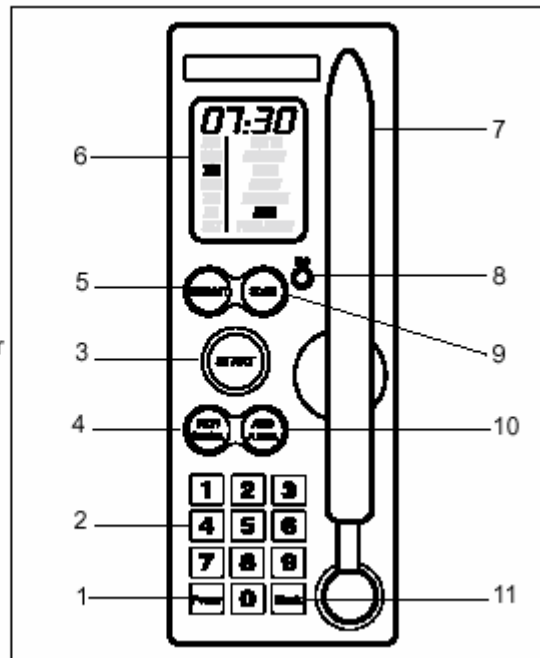

Figure 5. Beyond Smart Microwave oven Control Panel
The control panel for your Beyond Smart Microwave Oven is shown in Figure 5, below. Control Panel push buttons and features are described in Table 1, immediately following.
- Please refer to Figure 5, page TBD, for an illustration of the control pad.